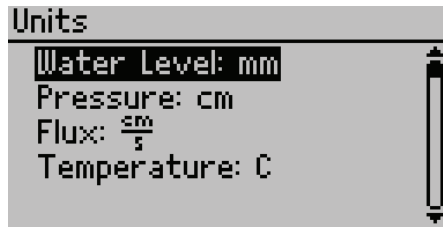

Figure 22 Editing the Units options
- **Units.** Edit the preferred units on all device screens and the units when downloading tests to the computer (Figure 22).